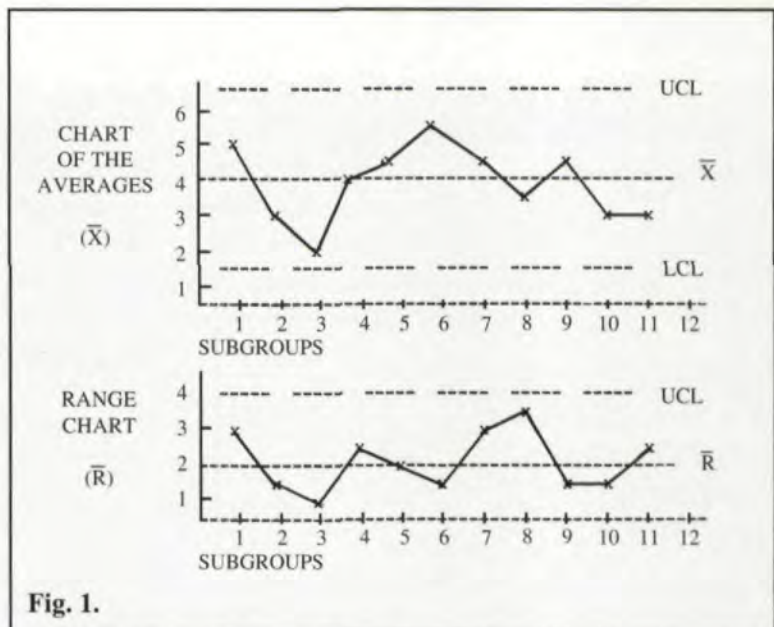

Fig. 1.
**A process is said to be "in control" when the assignable causes have been eliminated.** A process in statistical control will be evidenced on a control chart by the absence of points beyond the control limits and by the absence of non-random patterns or trends within the control limits (LCL, UCL). See Fig. 1.